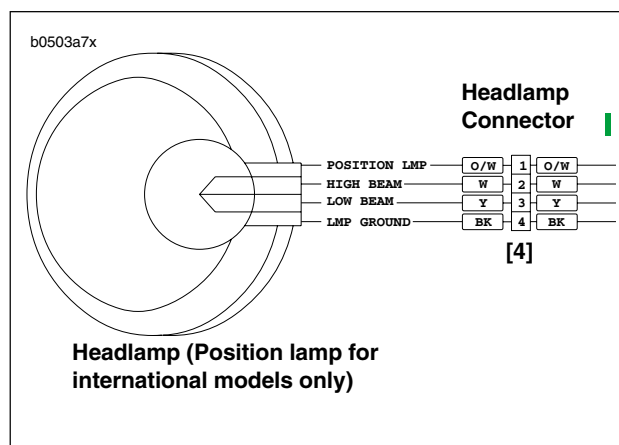

Figure 7-61. Headlamp Connector [4]
2. See Figure 7-61. Cut as many cable straps as necessary to access headlamp connector [4] along right side frame tube. Detach connector [4] from wiring harness.
- See Figure 7-61. Route headlamp wire harness between front forks and along right side frame tube. Attach connector [4] to wiring harness. Fasten wiring harness to frame with **new** cable straps.